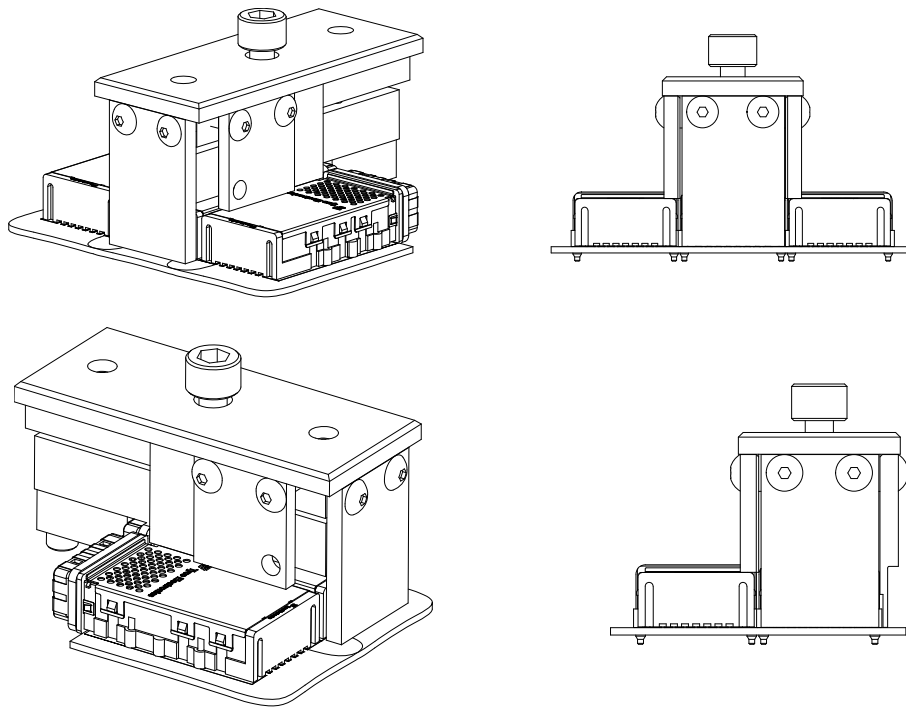

Figure 2
*There are (4) M2 screws holding the receptacle assembly to the pc board. These M2 screws must be removed prior to removing the receptacle assembly.*
*Be certain to remove tool assembly does not contact any components on the pc board during use. To prevent damage, the side plates can be routed to clear adjacent components. See Figure 2.*
3. Properly orient the side plate(s) of the upper tooling assembly based on any adjacent receptacle assembly(s). See Figure 2.